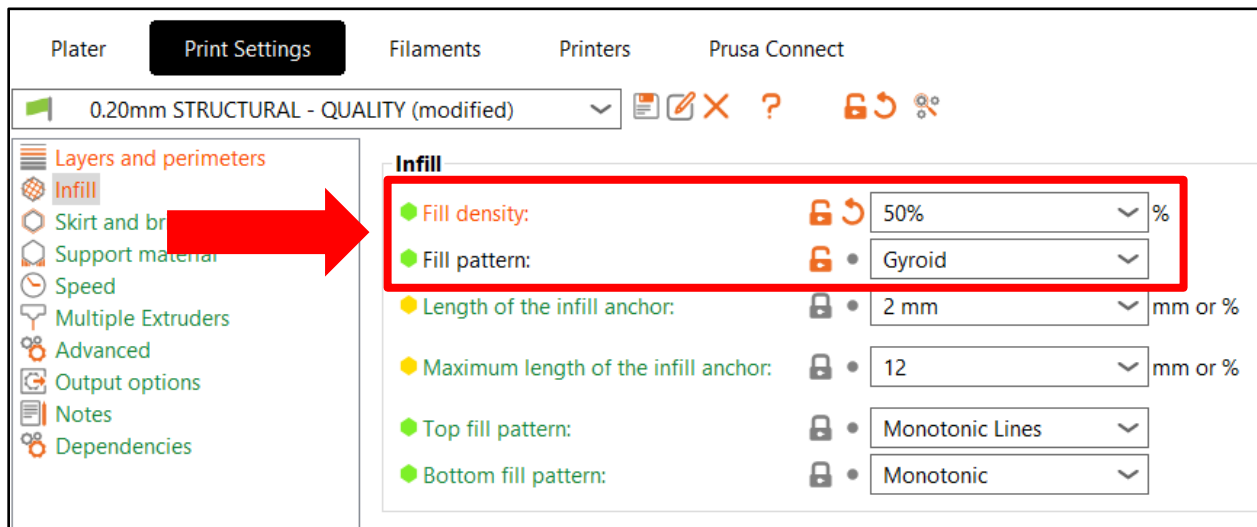

Figure 3. Adjusted Infill Settings.
4.) Change the fill density to 50% and the fill pattern to Gyroid (see red box in Figure 3).